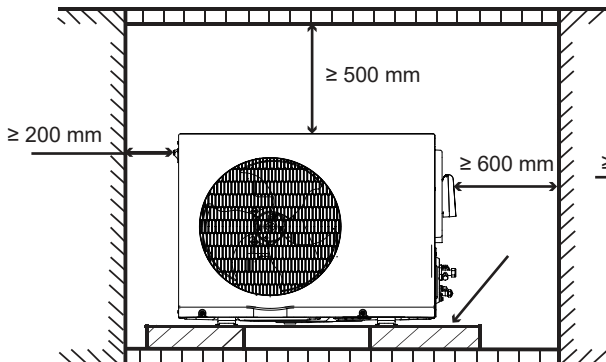
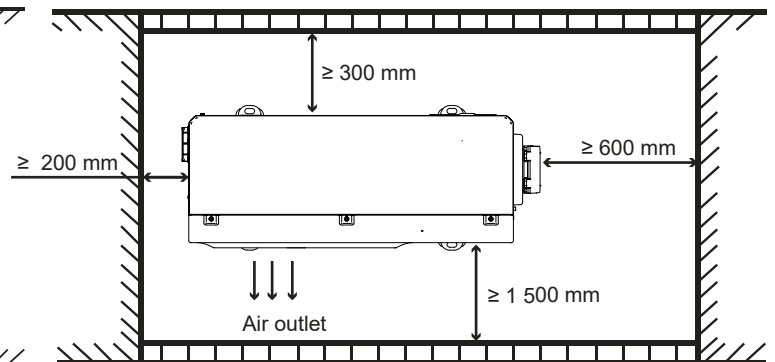

Fig 3-1
Fig 3-2
3.2.1 Outdoor unit installation and maintenance space, see Fig 3-1 and Fig 3-2 . (Unit: mm)